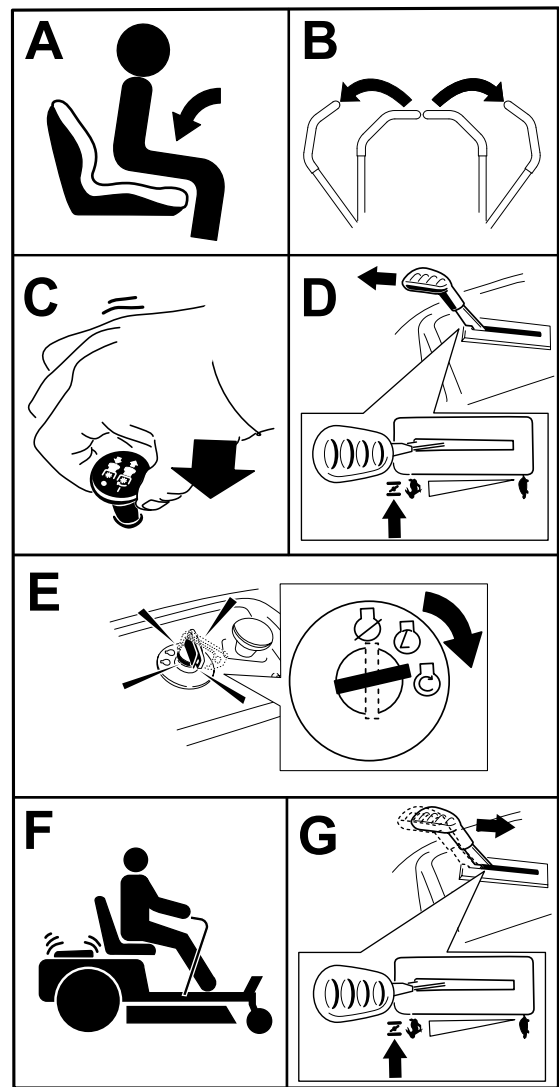

Figure 23
Note: It may be necessary to hold the lever against the stop, in the choke position, while trying to start the engine (Figure 23).
1. Disengage the blades by moving the blade-control switch to the OFF position (Figure 23).